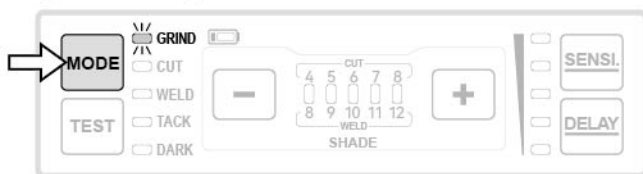

fig.3
**Grind Mode - Shade 2 (See fig.3)**